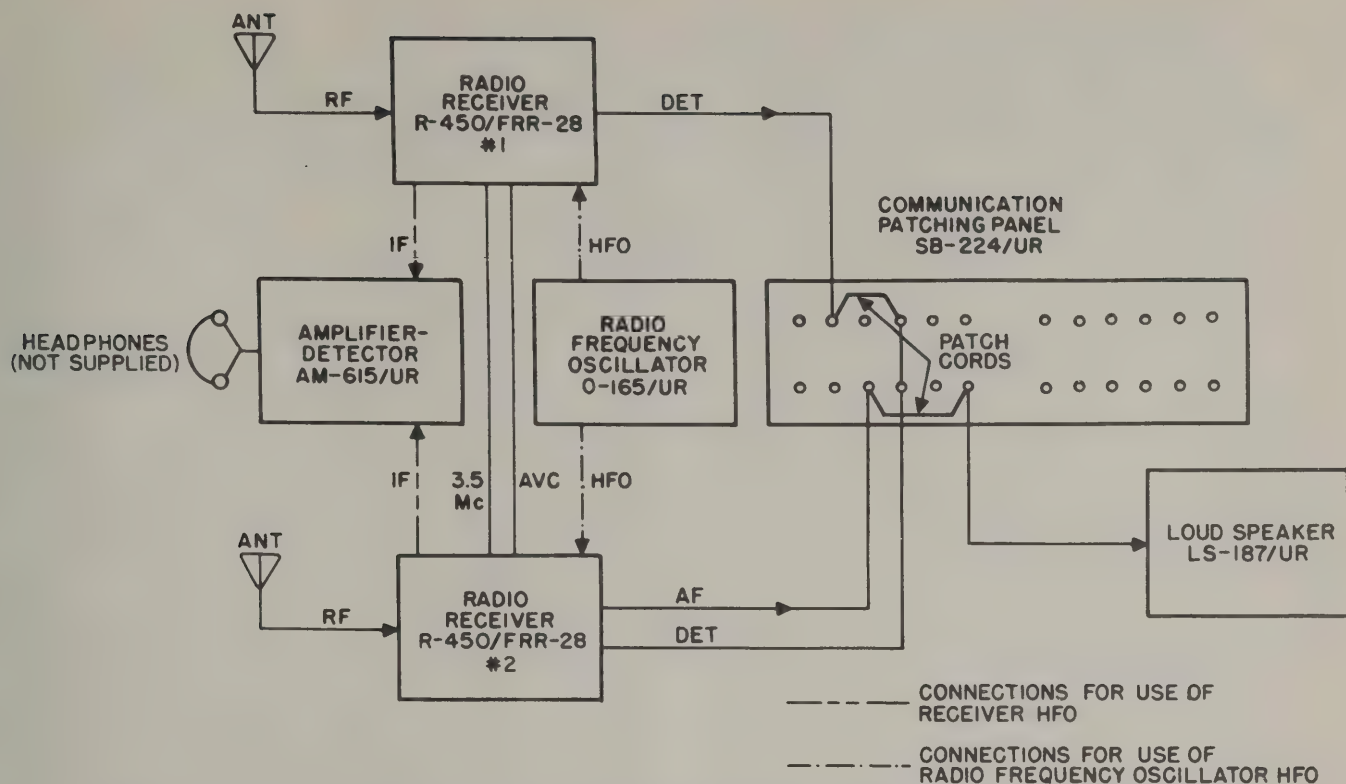

Figure 2-4. Radio Receiving Set AN/FRR-28, Block Diagram, Diversity Reception of Phone Signals
d. DUAL SPACE OR FREQUENCY DIVERSITY RECEPTION OF RADIOPHONE SIGNALS. (See figure 2-4.)—The dual space, or frequency diversity, radiophone signals are fed from the antenna to the receivers. For dual space diversity reception, either the internal oscillator of the receivers or RF Oscillator